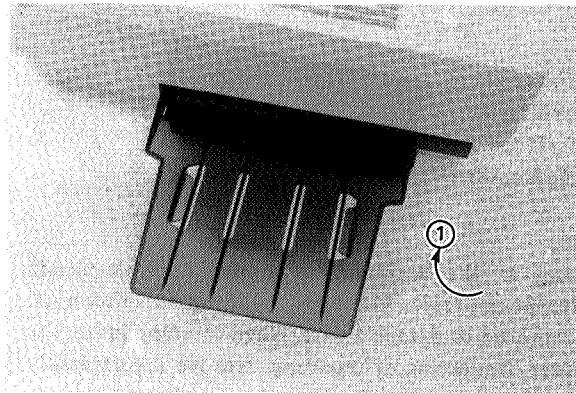

Figure 4-8
- (1) Raise the print tray.
- (2) Press the projection on one end of the print tray to release that end, then press the other end to release the tray. (See Fig. 4-8.)